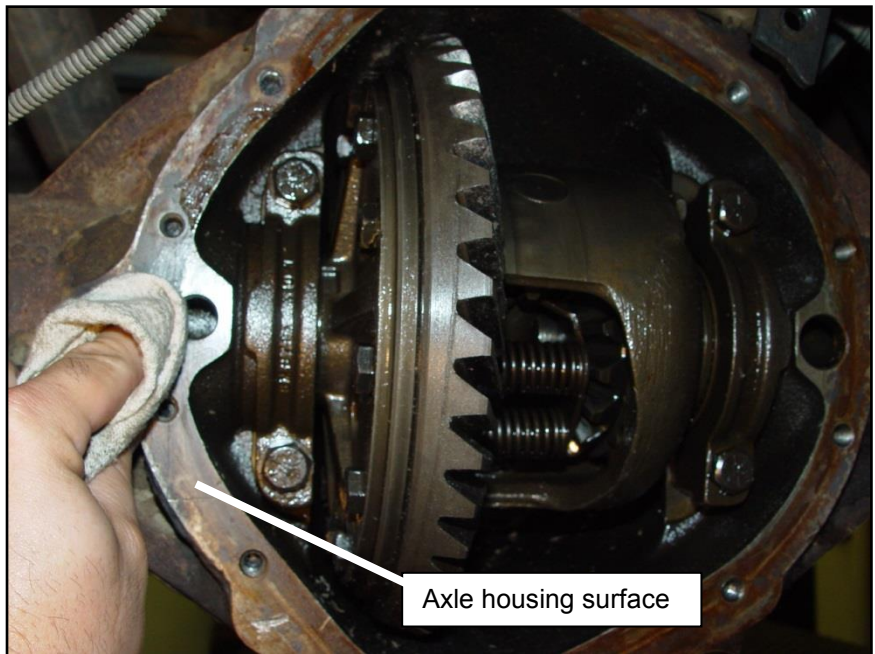

Figure 2
STEP 8. Clean all gasket material from the axle housing surface (See **Figure 2**).